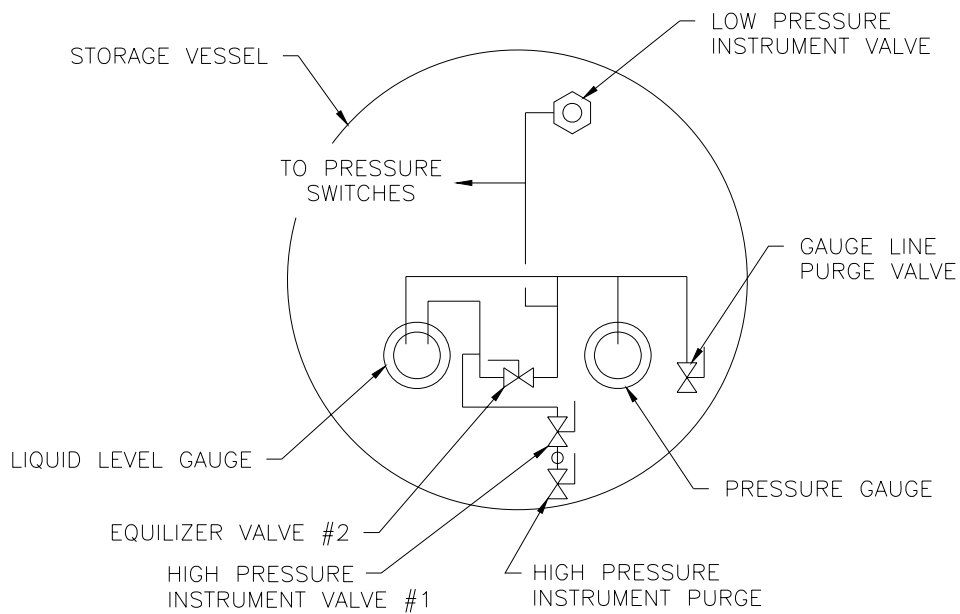

Figure 4-3
D. Fill the storage unit: (See figure 4-3)